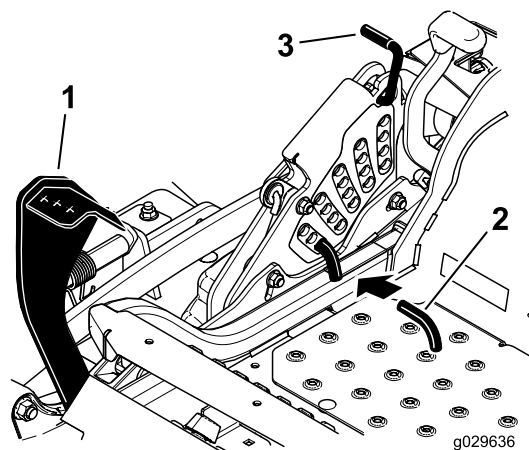

Figure 28
2. Push on the deck-lift pedal with your foot and raise the mower deck to the Transport position (also the 140 mm or 5-1/2 inch cutting-height position) as shown in Figure 28.
3. To adjust, rotate the pin 90 degrees and remove the pin from the height-of-cut bracket (Figure 28).
4. Select a hole in the height-of-cut bracket corresponding to the height-of-cut desired, and insert the pin (Figure 28).